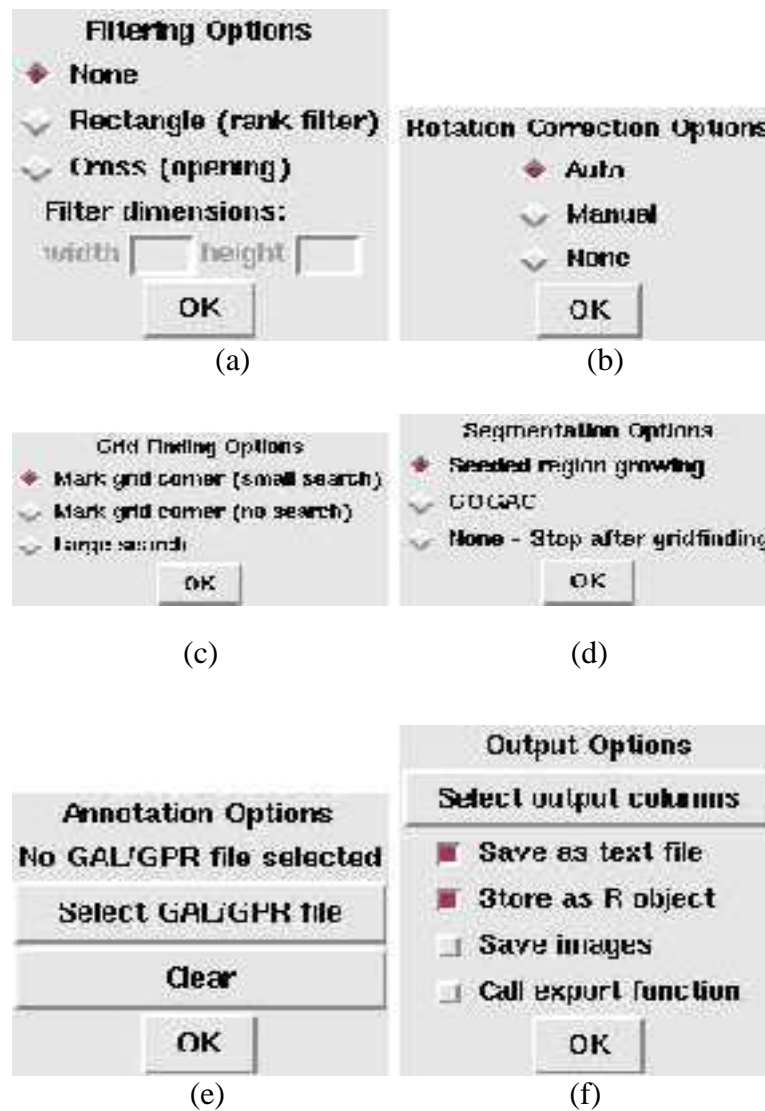

Figure 2: Processing options dialog boxes
- We will begin with a run that only does grid finding. This will give an idea of the sort of problems we may need to deal with. Go to the **Segmentation Options** dialog) and check the **None - Stop after gridfinding** (see Figure 2 option).